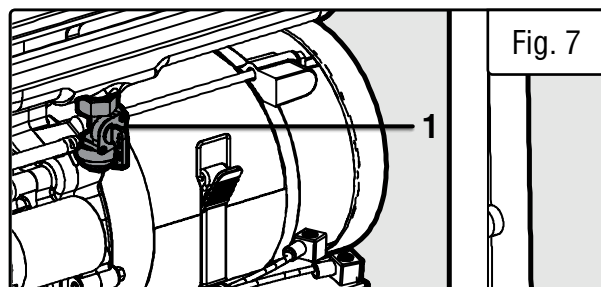

Fig. 7
1. Turn the fuel valve (Fig. 7 - 1) to the ON position.